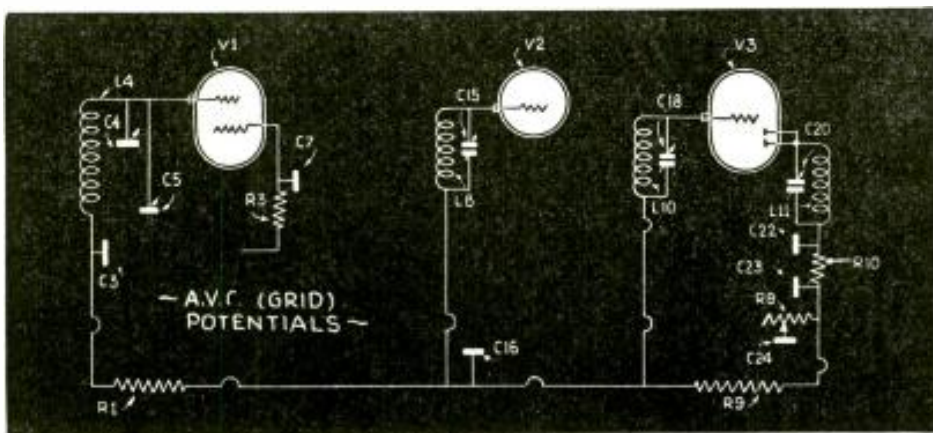
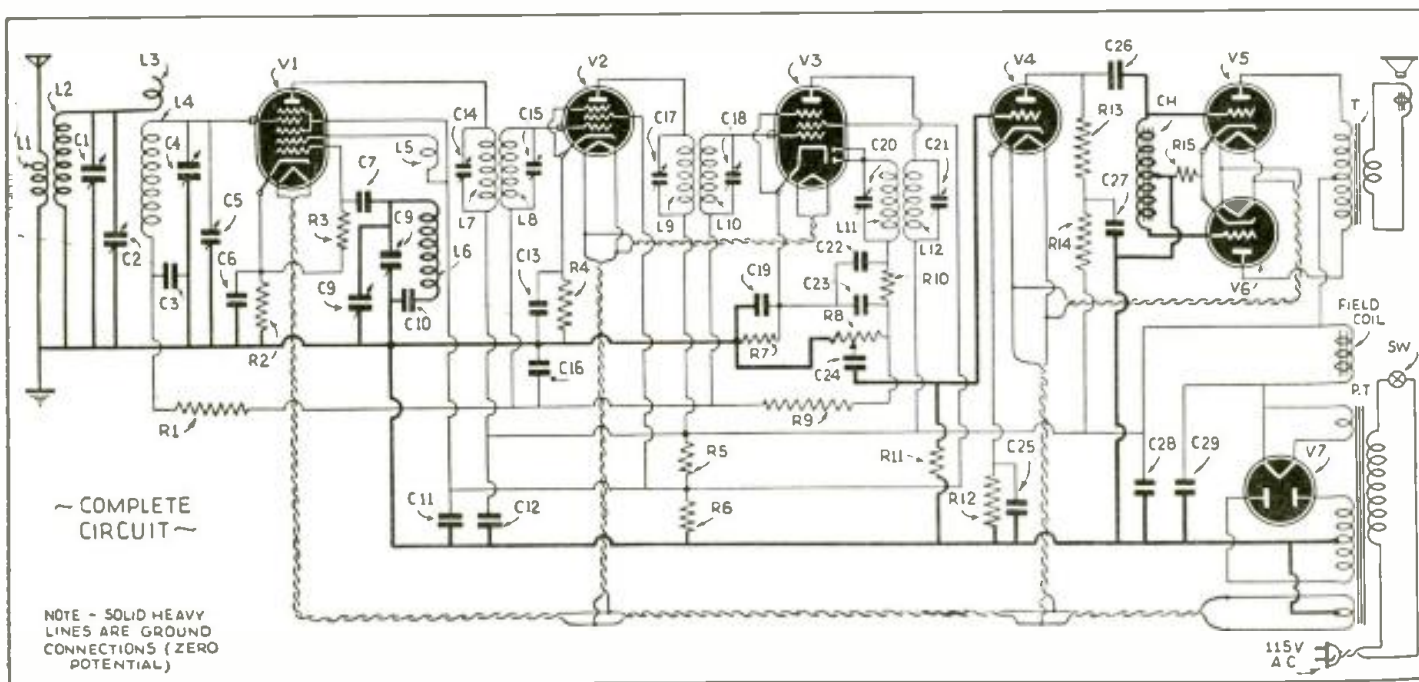

Fig. 2
Fig. 1
wiring if the circuit diagram is broken down into its main divisions such as plate, grid and power supply circuits. An easy way to do this is to place a piece of tracing paper over the diagram and trace off the plate circuits, shift the paper and trace the grid leads, et cetera, the drawings will make the procedure clear. With this method even the most complicated diagrams can be simplified so that the actual wiring is rapidly done by completing all the plate circuits, then all the grid circuits, etc. A representative circuit—a 7-tube super-het. with push-pull output—is shown in Fig. 1.
A word about ground (chassis) connections (shown as heavy lines in Fig. 1): always take the shortest route, do not use long wires connecting various grounds together. It is good practice, if a low-range ohmmeter is available, to test all soldered joints to make sure that they have no appreciable resistance.
See how the control-grid wiring is located. Copy onto tracing paper and place over Fig. 1.
**Heaters**—It is often an advantage to wire-in the heaters (twisted leads, in Fig. 1) first as this will establish a reference point for the locating of the other tube socket connections.
**Control-grids**—The control-grid circuits (Fig. 2) should be the next to be completed making all leads as short as possible.
The main diagram, Fig. 1, does not include the electrical values of the components inasmuch as this diagram was selected merely as the basis for a discussion of circuit wiring.
See for yourself how really easy it is to duplicate even the most intricate portions of this diagram. Instead of tracing on tissue a portion of the diagram, Fig. 1, as suggested by Mr. Miller, try reversing the procedure. As suggested in the caption under Fig. 2, take such portions of the diagram as have been reproduced in Figs. 2, 3 and 4, and see how these "breakdowns," after being copied onto tracing paper, fit right in place on the main diagram!